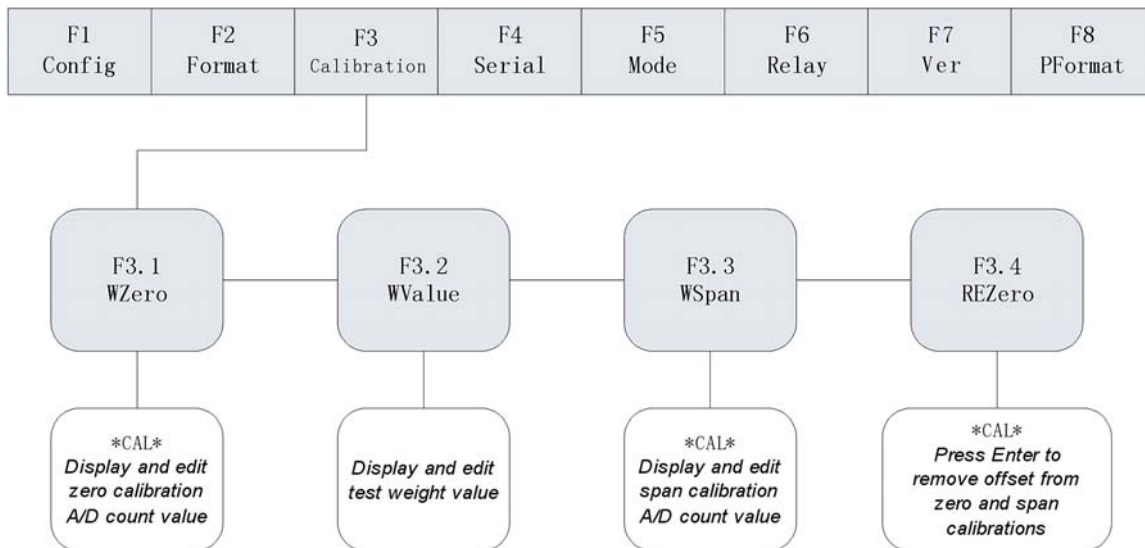

Fig. 4-1 F3(Calibration) Menu
- (1) Set indicator to the Configuration mode (display shows “F 1”) and remove all weight from the scale platform. If the test weights require hooks or chains, place the hooks or chains on the scale for zero calibration.
- (2) Press until the display shows “F 3” (see Fig. 4-1). Press to go to zero calibration mode. Display shows “F 3” (see Fig. 4-1).
- (3) When display shows “F 3.1”, there are 2 options :